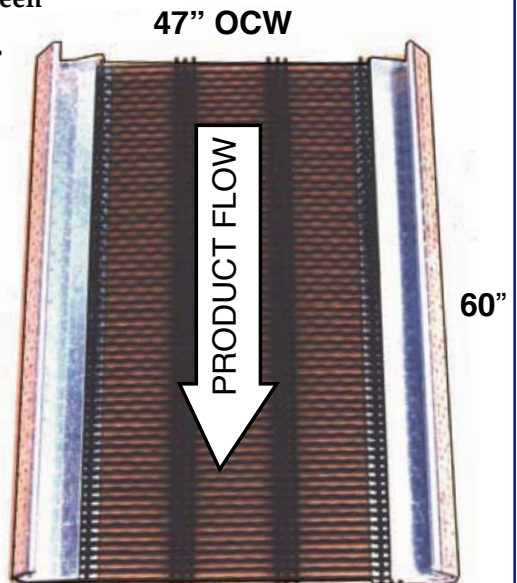
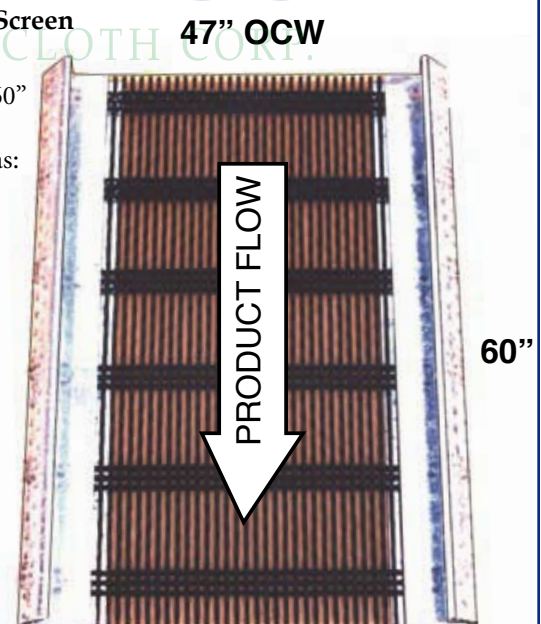

Fig. 2 TM
Fig. 3
- C. If a slotted opening is required, the direction of the slot should be specified in relation to the hook strips. Number of shoot wires should also be specified (most common is single shoot and triple shoot). Slots "RA" or "Against the flow" indicate the slots are right angle to the hook strips. (See fig. 2) Slots "SP" or "With the flow" indicate the slots are parallel to the hook strips. (See fig. 3) (Note : End tension screens will change the slot direction terminology.)